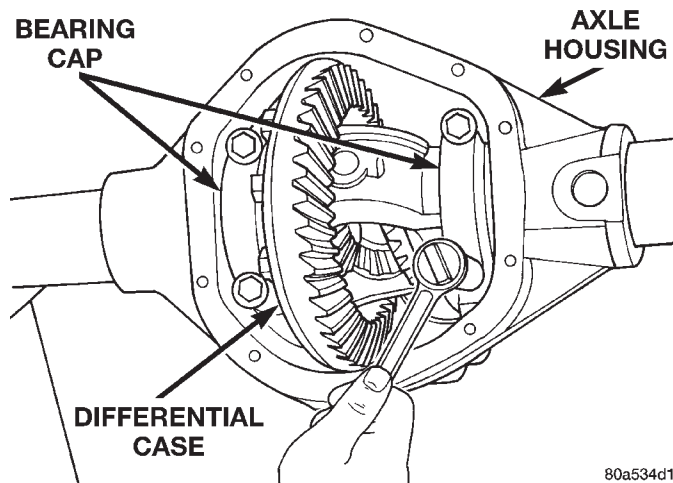

Fig. 51 Tighten Bolts Holding Bearing Caps
- (3) Install ring gear on differential case and tighten bolts to specification.
- (4) Install dummy side bearings D-348 on differential case.
- (5) Install differential case in axle housing.
- (6) Install the marked bearing caps in their correct positions. Install and snug the bolts (Fig. 51).